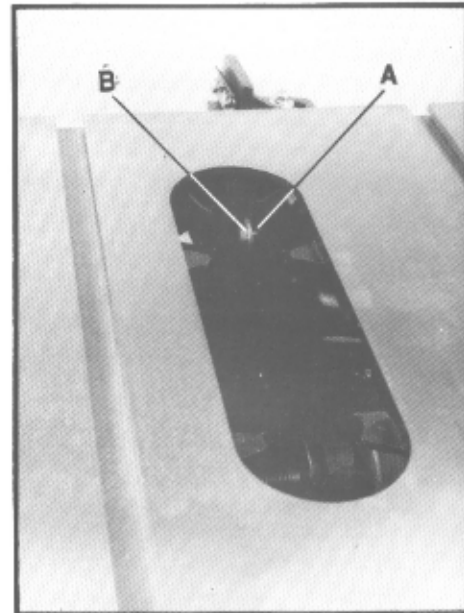

Fig. 5
5. Insert front tab of blade guard assembly through insert opening in table and onto bracket assembly. Tab fits between bracket assembly (A, Fig. 5) and flat washer (B, Fig. 5).